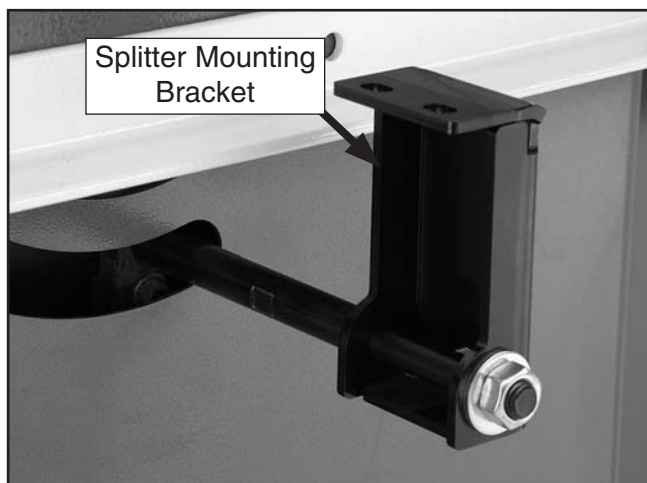

Figure 14. Blade guard mounting bracket.
2. Slide the splitter mounting bracket onto the shaft (**Figure 14**) and secure it with the 1/2"-12 hex nut and a 1/2" flat washer.